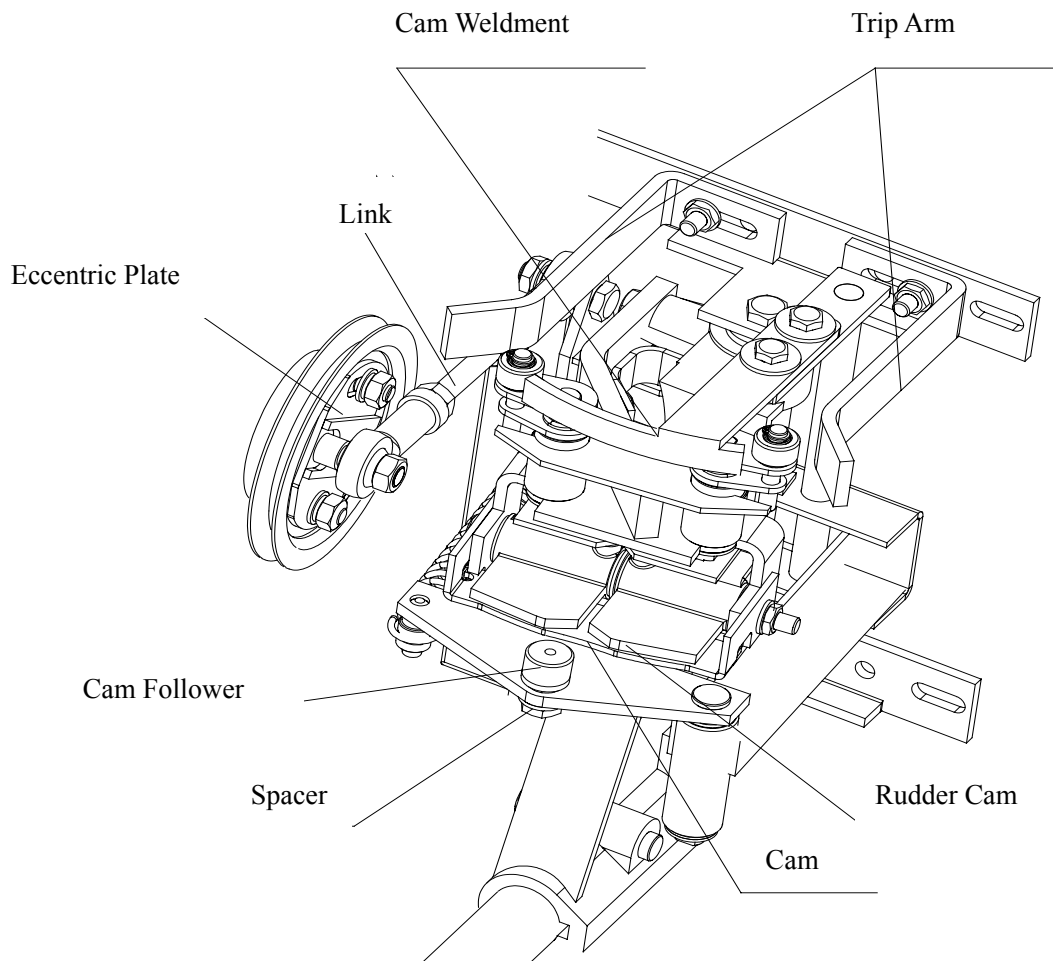

Fig. 4
Adjust the height of cam follower bearing, make it can reach the Rudder Cam, and high enough to reach the Cam. The cam follower bearing can be adjusted with inserting spacers. (See fig. 4)
b. Adjustment of Rudder Bracket Shaft (See fig. 4 & 5)